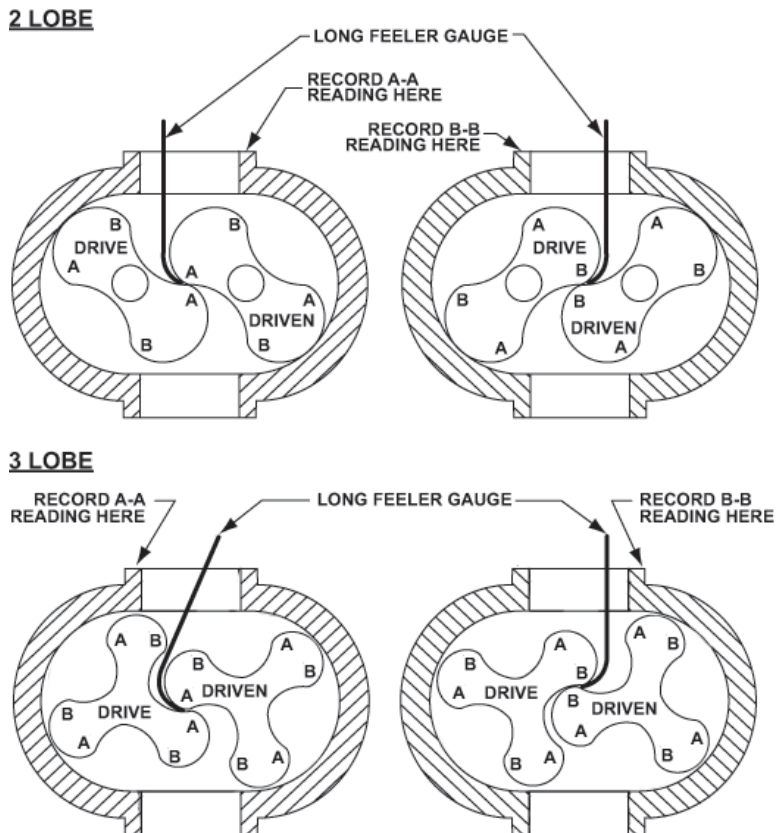

Figure 8-15 – Checking Rotor Interlobe Clearances
1. Use feeler gauges to take interlobe readings, and record them on each side of housing as indicated in **Figure 8-15**. As shim is removed or added behind the helical gear, the gear rotates as it is moved in or out and the driven rotor turns with it, thus changing the clearance between rotor lobes.
EXAMPLE: Referring to **Figure 8-15**, check the clearance at AA (right-hand reading) and BB (left-hand reading). If the AA reading is 0.009 in. (0.23 mm) and the BB reading 0.003 in. (0.08 mm), adjust by removing 0.006 in. (0.15 mm) shims from the driven rotor. The readings will change one half the amount removed: 0.003 in. (0.08 mm). AA should then read 0.006 in. (0.15 mm) and BB should read 0.006 in. (0.15 mm). The final readings should be within 0.002 in. (0.05 mm) of each other.